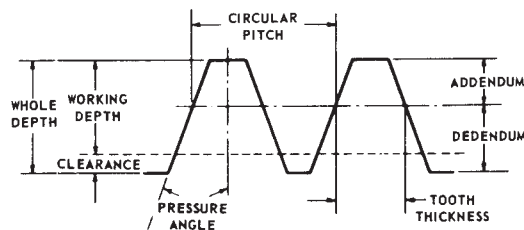

FIGURE 1.11 — BASIC RACK (NORMAL PLANE)
- 1.26 Addendum** is the height by which a tooth projects beyond the pitch circle or pitch line; also, the radial distance between the pitch circle and the addendum circle. (Figure 1.11)
- 1.27 Dedendum** is the depth of a tooth space below the pitch circle or pitch line; also, the radial distance between the pitch circle and the root circle. (Figure 1.11)
- 1.28 Clearance** is the amount by which the dedendum in a given gear exceeds the addendum of its mating gear. (Figure 1.11)
- 1.29 Working Depth** is the depth of engagement of two gears; that is, the sum of their addendums. (Figure 1.11)
- 1.30 Whole Depth** is the total depth of a tooth space, equal to addendum plus dedendum, also equal to working depth plus clearance. (Figure 1.11)